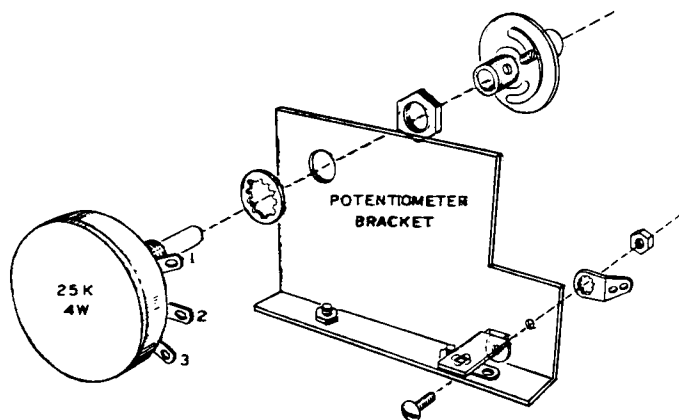

Figure 12
- () Strip both ends of a 4 1/4" green wire and connect one end to switch terminal 10 (S). Pass the wire through the 5/16" grommet and leave the other end free.
- () Refer to Figure 12 and mount the driver potentiometer, solder lug and terminal strip on the potentiometer mounting plate as shown.
- () Install the mounting plate and potentiometer just in back of the XTAL-VFO switch and couple the two units together as shown in Figure 12. Use the split bushing over the switch shaft to fit the insulated coupler as indicated in Figure 11. Use 6-32 hardware to mount the plate and tighten the plate to the chassis before tightening the coupler set screws. Care should be used to prevent damage to the RF choke immediately behind the potentiometer.